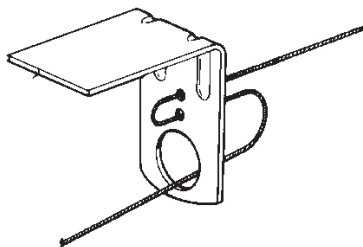
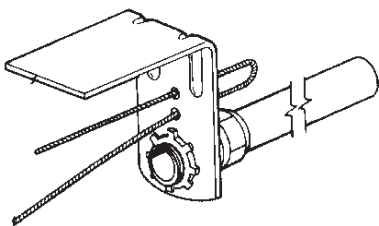
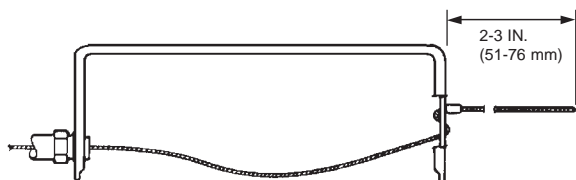

FIGURE 11
FIGURE 12
FIGURE 13
5. Feed the wire rope through the terminal detector bracket as shown in Figure 11 or as shown in Figure 12 if the terminal detector is mounted within a duct or header opening, and install the stop sleeve approximately 2 to 3 in. (51 to 76 mm) from the end of the wire rope. See Figure 13. Use the National Telephone Supply Company Nicopress Sleeve Tool (Stock No. 51-C-887) or equal to properly crimp the stop sleeve.